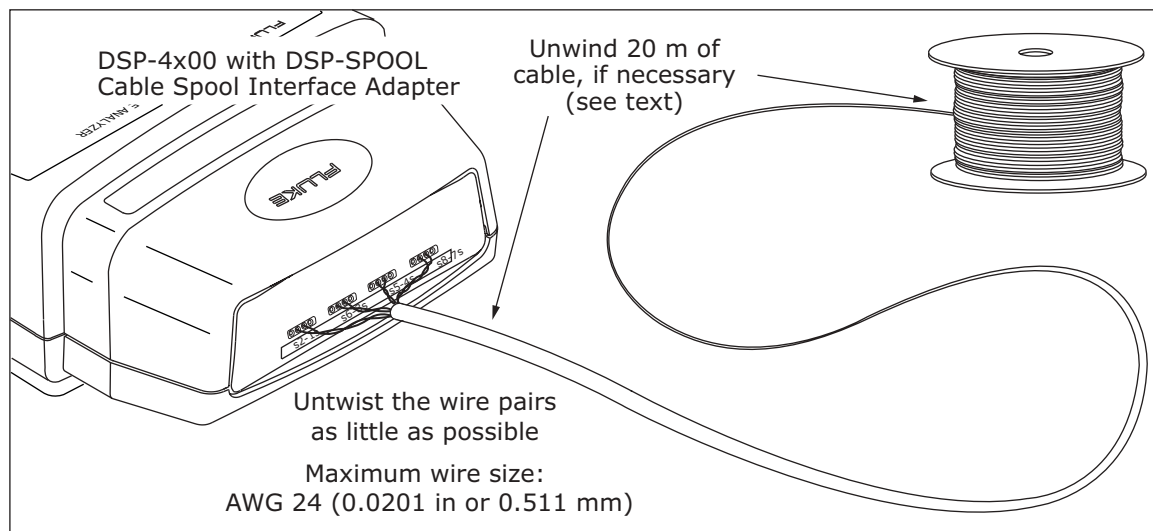

Figure 1. Testing Cable Spools with the Cable Spool Interface Adapter
3. Attach a spool test adapter to a DSP-4x00 main unit. Connect the cable to the adapter as shown in Figure 1.